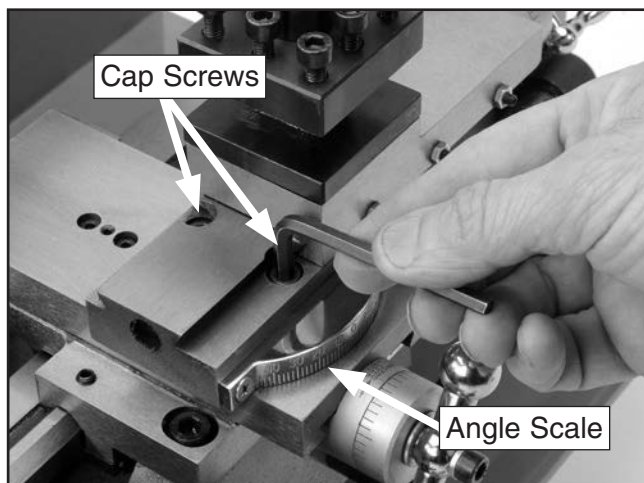

Figure 41. Compound rest angle adjustments.
1. Loosen cap screws shown in **Figure 41**.